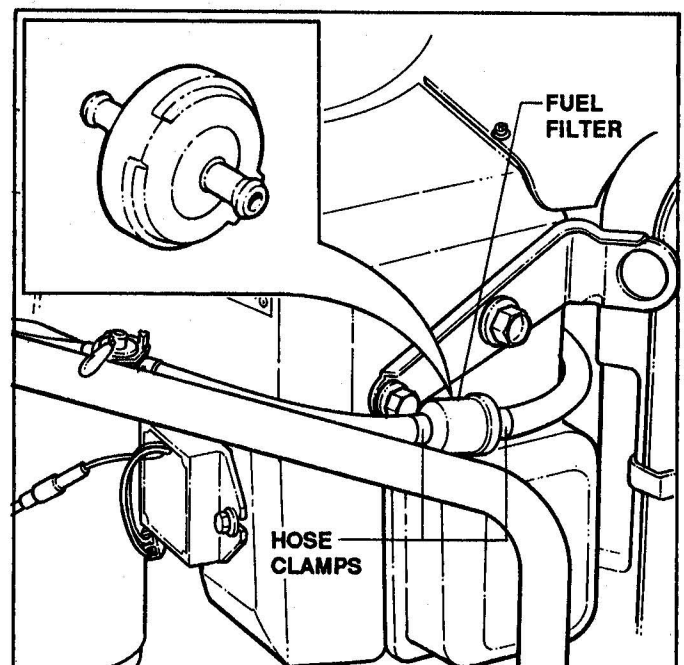

FIGURE 3.12
5. Install new filter. Part number 1-4359. See Figure 3.12.